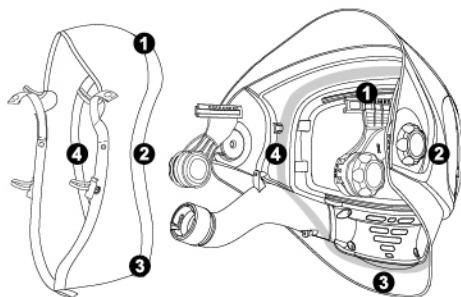

fig.9
•In accordance with the order of 1-4 in the figure, align the face seal with the velcro inside the helmet shell and make sure the face seal is closely attached to helmet shell (See fig.9).